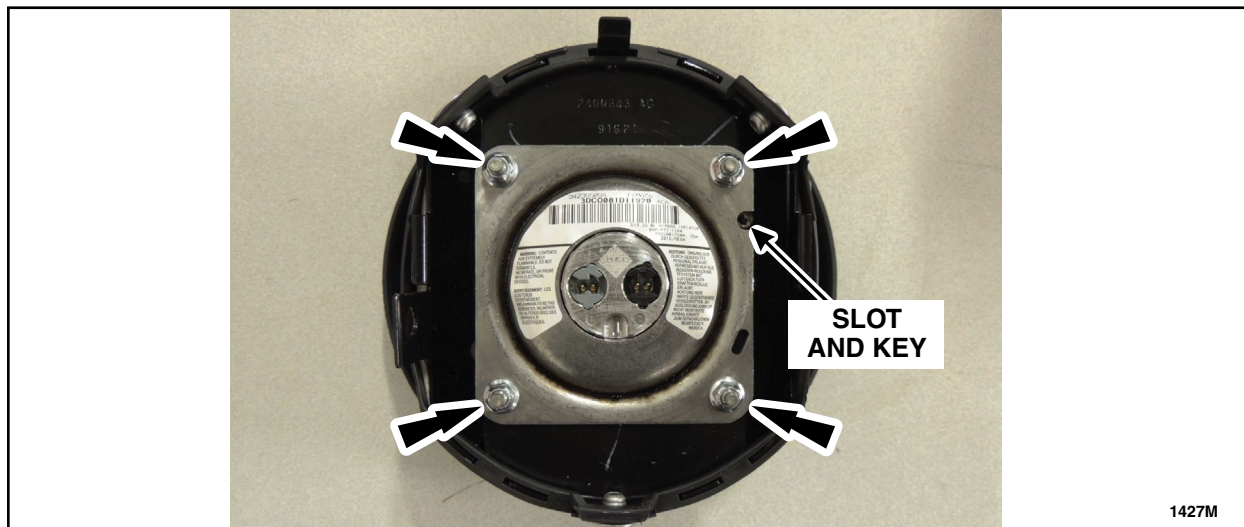

FIGURE 3
7. Align the key on the driver airbag with the slot on the *new* inflator. Install the *new* inflator into the driver airbag. See Figure 3.
8. Install four *new* airbag inflator nuts onto the driver airbag. See Figure 3.